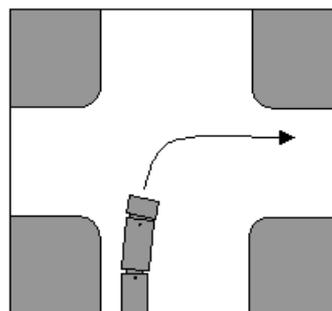

Fig 8
34.1 When you are operating on an unlaned road and you are turning right from a two-way road into a two-way road you must, where practicable (Fig 8):